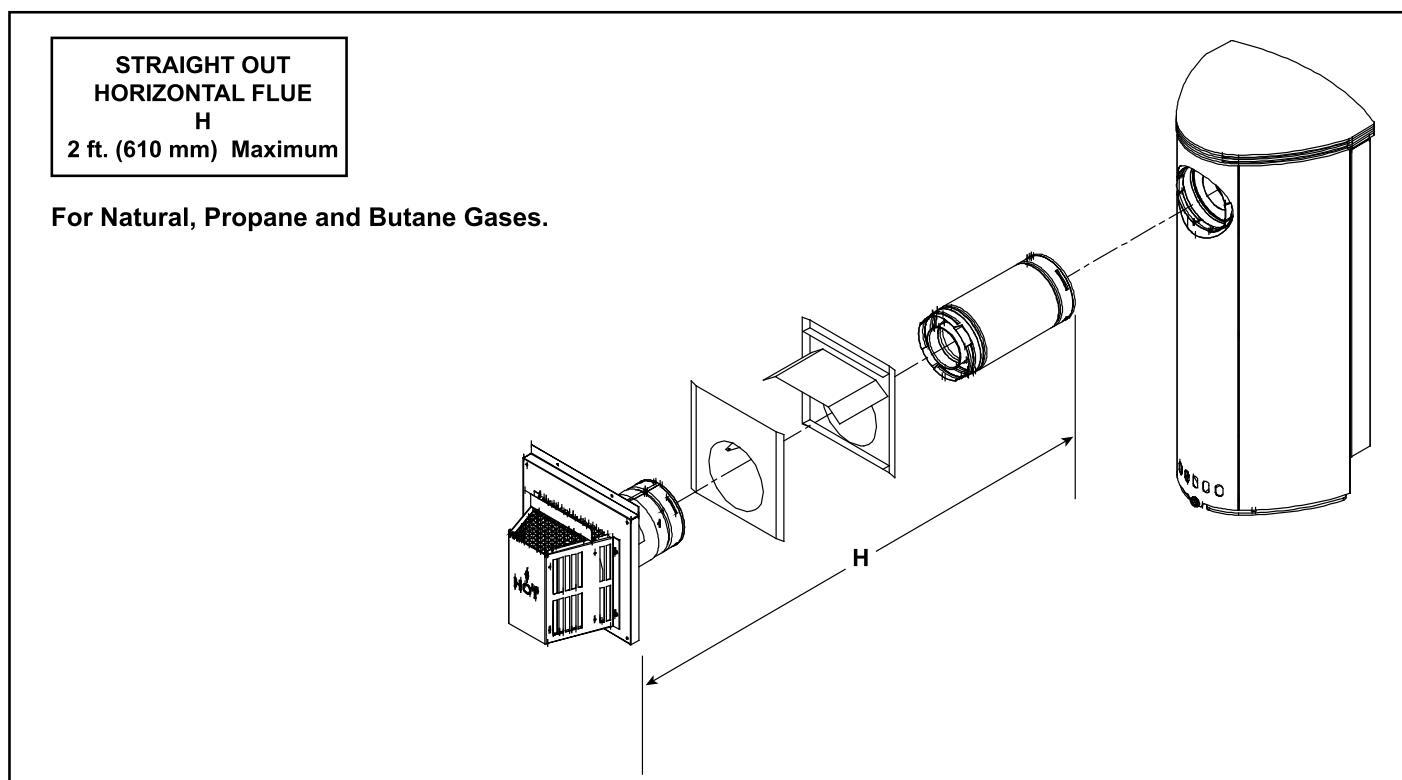

Figure 7.3
- Horizontal terminations are measured to the outside edge of termination cap. See Figure 7.3.